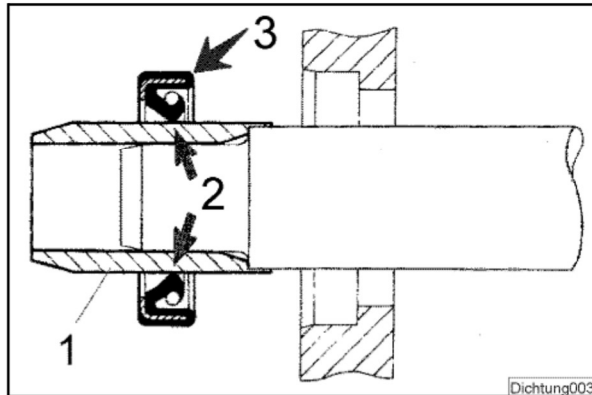

Fig. 2
- Lubricate the sealing lips (2) (Fig. 2) with clean grease; in case of double seals fill the space between the sealing lips with a generous amount of grease.
If possible, use an assembly sleeve (1 (Fig. 2)), to **protect the lip from being damaged by sharp edges, threads or splines**. If no assembly sleeve is avail-
- Lubricate the outer rim (arrow 3 (Fig. 2)) of the seal and press it flat on the housing seat.